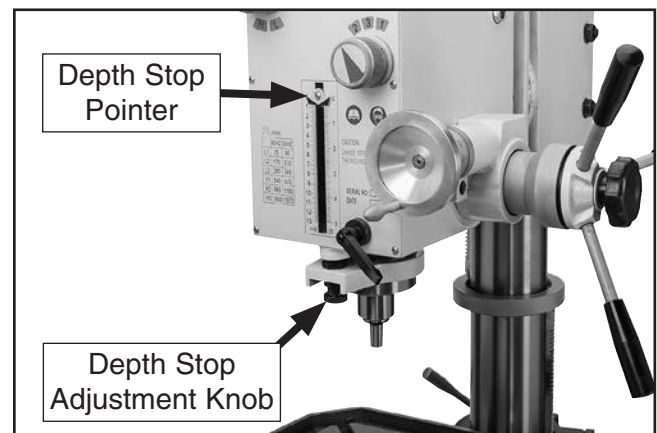

Figure 21. Location of depth stop controls.
4. Rotate depth stop adjustment knob until top of depth stop pointer is level with desired depth as listed on scale (see **Figure 21**).